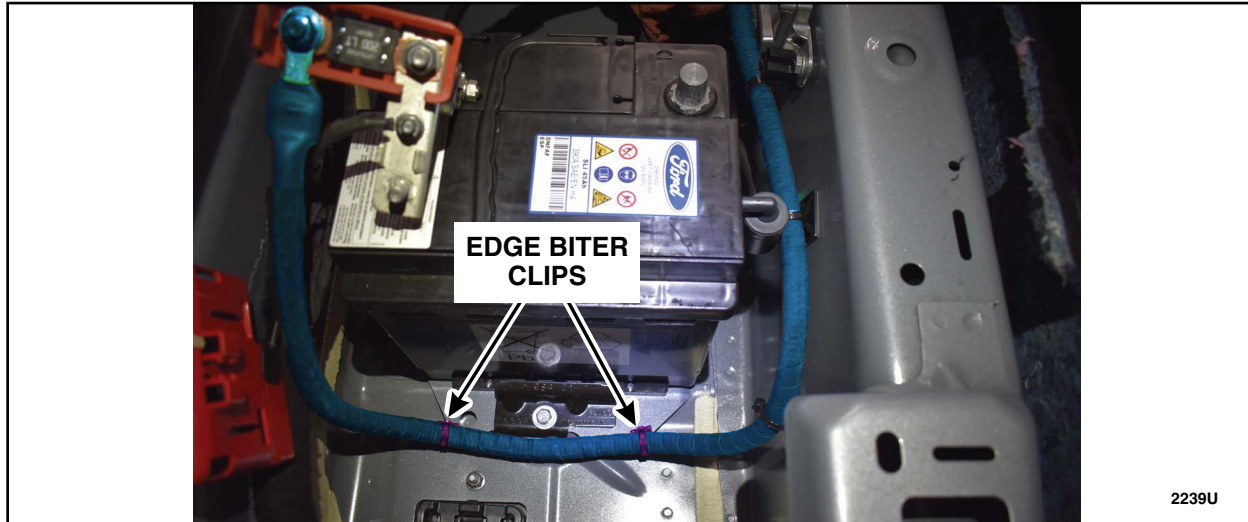

FIGURE 26
31. Route harness, as shown in Figure 26, making sure to secure the end to the battery, in place of the old harness.